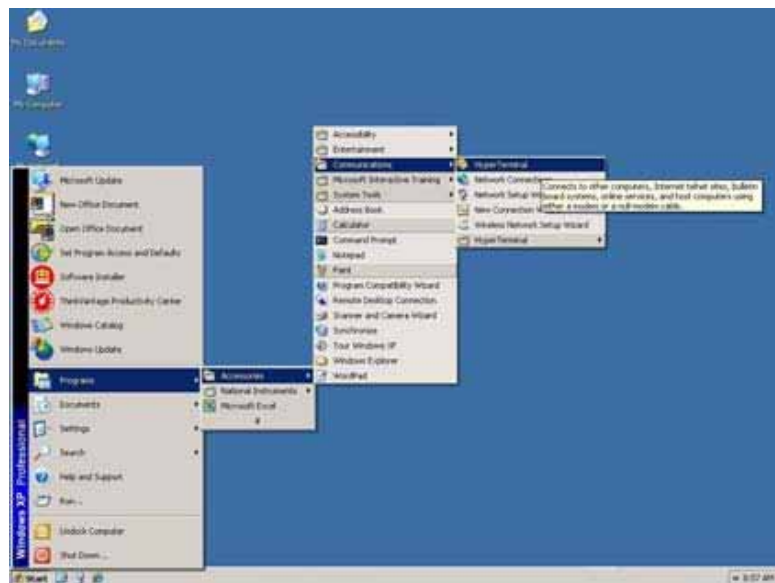

Figure 10 Opening HyperTerminal
5. See Figure 10. On the computer, open the HyperTerminal software application.